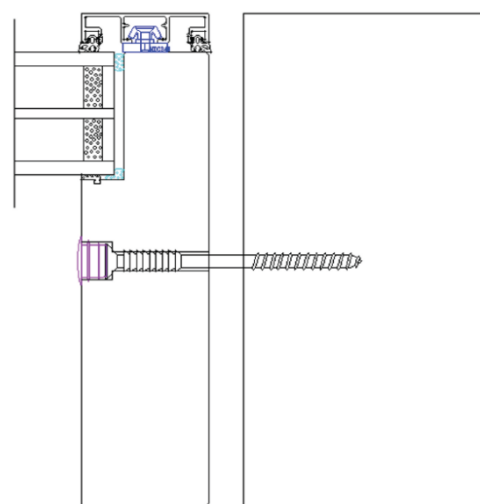

Figure 4. Drilling the holes for the mounting screws
4. Drill the holes for the mounting screws for the vertical parts of the casing approximately in the middle of the casing and 500 mm apart using a frame drill bit **(Figure 4)**. The frame plugs supplied with the product are suitable for 13 mm holes.